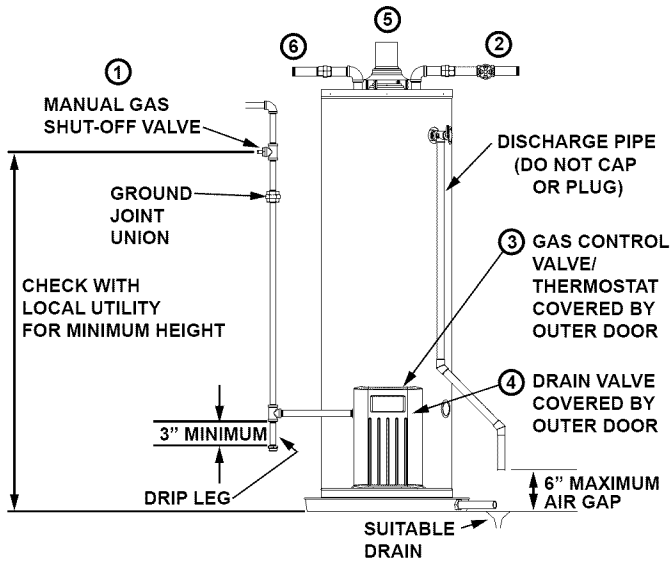

FIGURE 2.
If the main gas line shutoff valve serving all gas appliances is used, also shut "OFF" the gas at each appliance. Leave all gas appliances shut "OFF" until the water heater installation is completed. See Figures 2 and 3.
2. Turn "OFF" the water supply to the water heater at the water shut off valve or water meter. Some installations require that the water be turned off to the entire house. See Figures 2 and 4.
4. Attach a hose to the water heater drain valve and put the other end in a floor drain or outdoors. (See Figures 2 and 5.) Open the water heater drain valve. Open a nearby hot water faucet which will relieve pressure in the water heater and speed draining. The water passing out of the drain valve may be extremely hot. To avoid being scalded, make sure all connections are tight and that the water flow is directed away from any person.